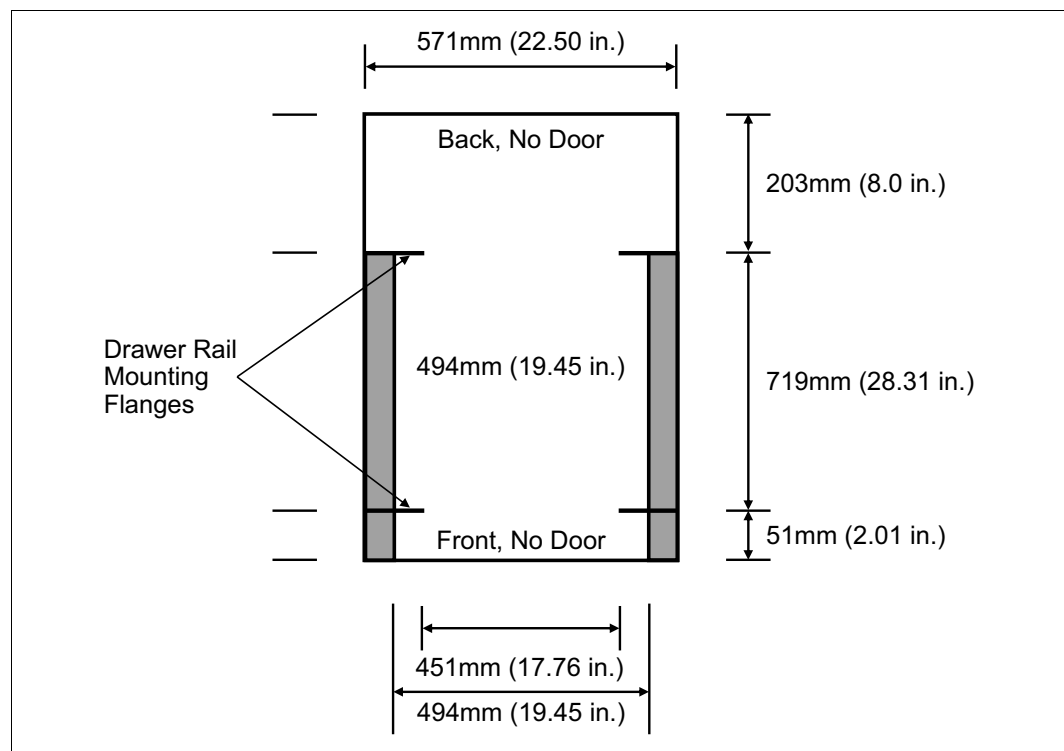

Figure 1-14 Top view of rack specification dimensions (not specific to IBM)
- The front rack opening must be 451 mm wide  $\pm 0.75$  mm (17.75 in.  $\pm 0.03$  in.), and the rail-mounting holes must be 465 mm  $\pm 0.8$  mm (18.3 in.  $\pm 0.03$  in.) apart on-center (horizontal width between the vertical columns of holes on the two front-mounting flanges and on the two rear-mounting flanges). Figure 1-14 is a top view showing the specification dimensions.